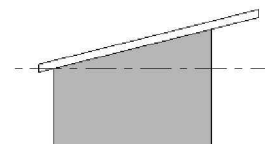

FIGURE 6-3.12 South elevation – shed roof (revised)
47. Switch to the South view to see the change (Figure 6-3.12).